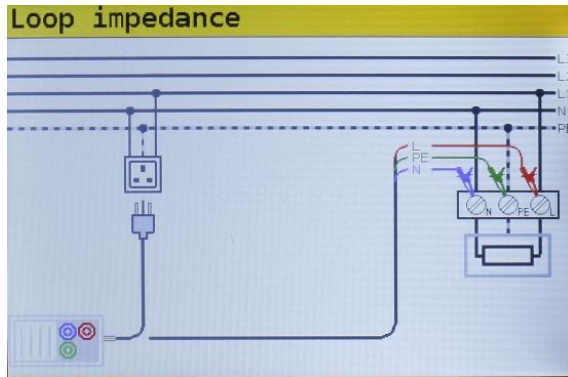

Figure 5.29: Connection of plug cable and universal test cable
- Step 2** Connect the test leads to the instrument and follow the connection diagram shown in the figure 5.29 to perform fault loop impedance measurement.